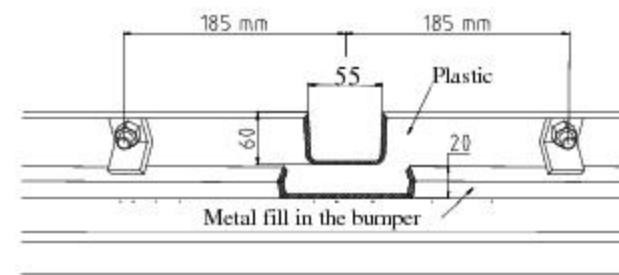

Fig. 2
3. Insert the main bar of towing hitch in the chassis and fix with M12x40mm (pos. 9) bolts in marked points (pos. A).
5. Disassemble the towing hitch an then join with the bumper after previous cut a fragment in the bumper. Look the fig. 2.
7. Apply the distance sleeve $\phi 17$, L=35mm (pos. 4) to the hole (pos. B) and fit with the M10x100mm (pos. 8) bolt. By the holes (pos. C) fix by M10x40mm (pos. 9) bolts and longitudinal washers (pos. 5).
8. Fix the tow-ball (pos. 2) and the socket plate (pos. 3) using bolts M12x75mm (pos. 6) and M12x70mm (pos. 7).